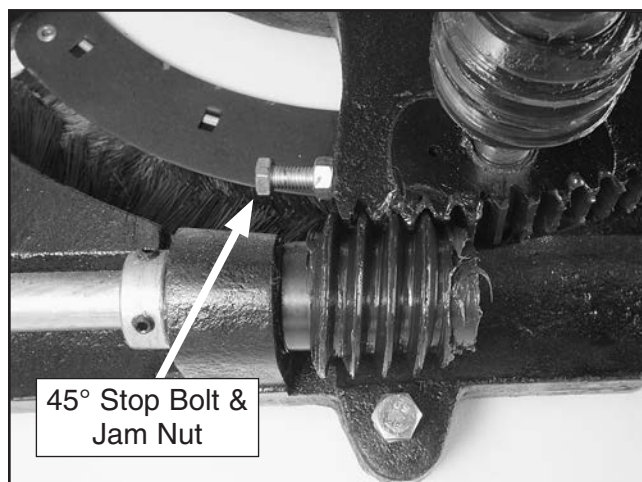

Figure 110. 45° stop bolt and jam nut.
6. Loosen the jam nut on the 45° stop bolt (see **Figure 110**) with a 13mm wrench, adjust the stop bolt up or down according to how far off the blade was from 45°.